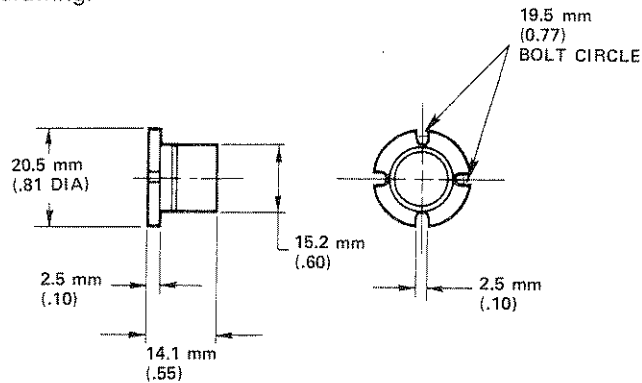

Figure 2-22. 10704A Retroreflector Specifications
- e. 10704A Retroreflector Specifications, see Figure 2-22.